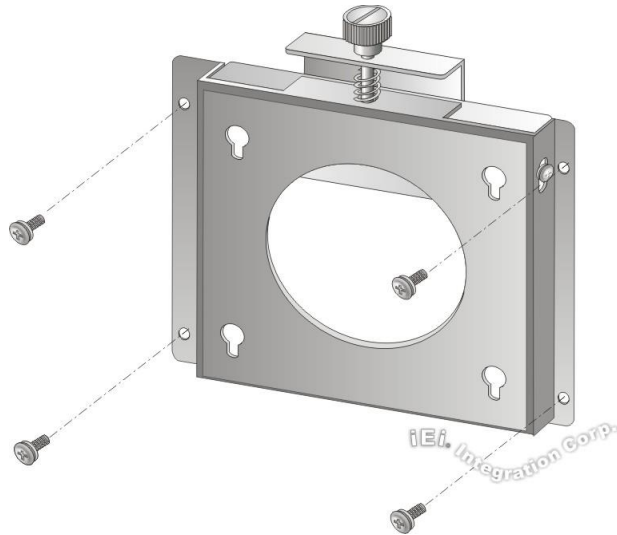

Figure 3-23: Attach Wall Mounting Kit to the Wall
Step 1: Attach the wall mounting kit to the mounting surface with the included screws. Make sure it is attached securely (**Figure 3-23**).